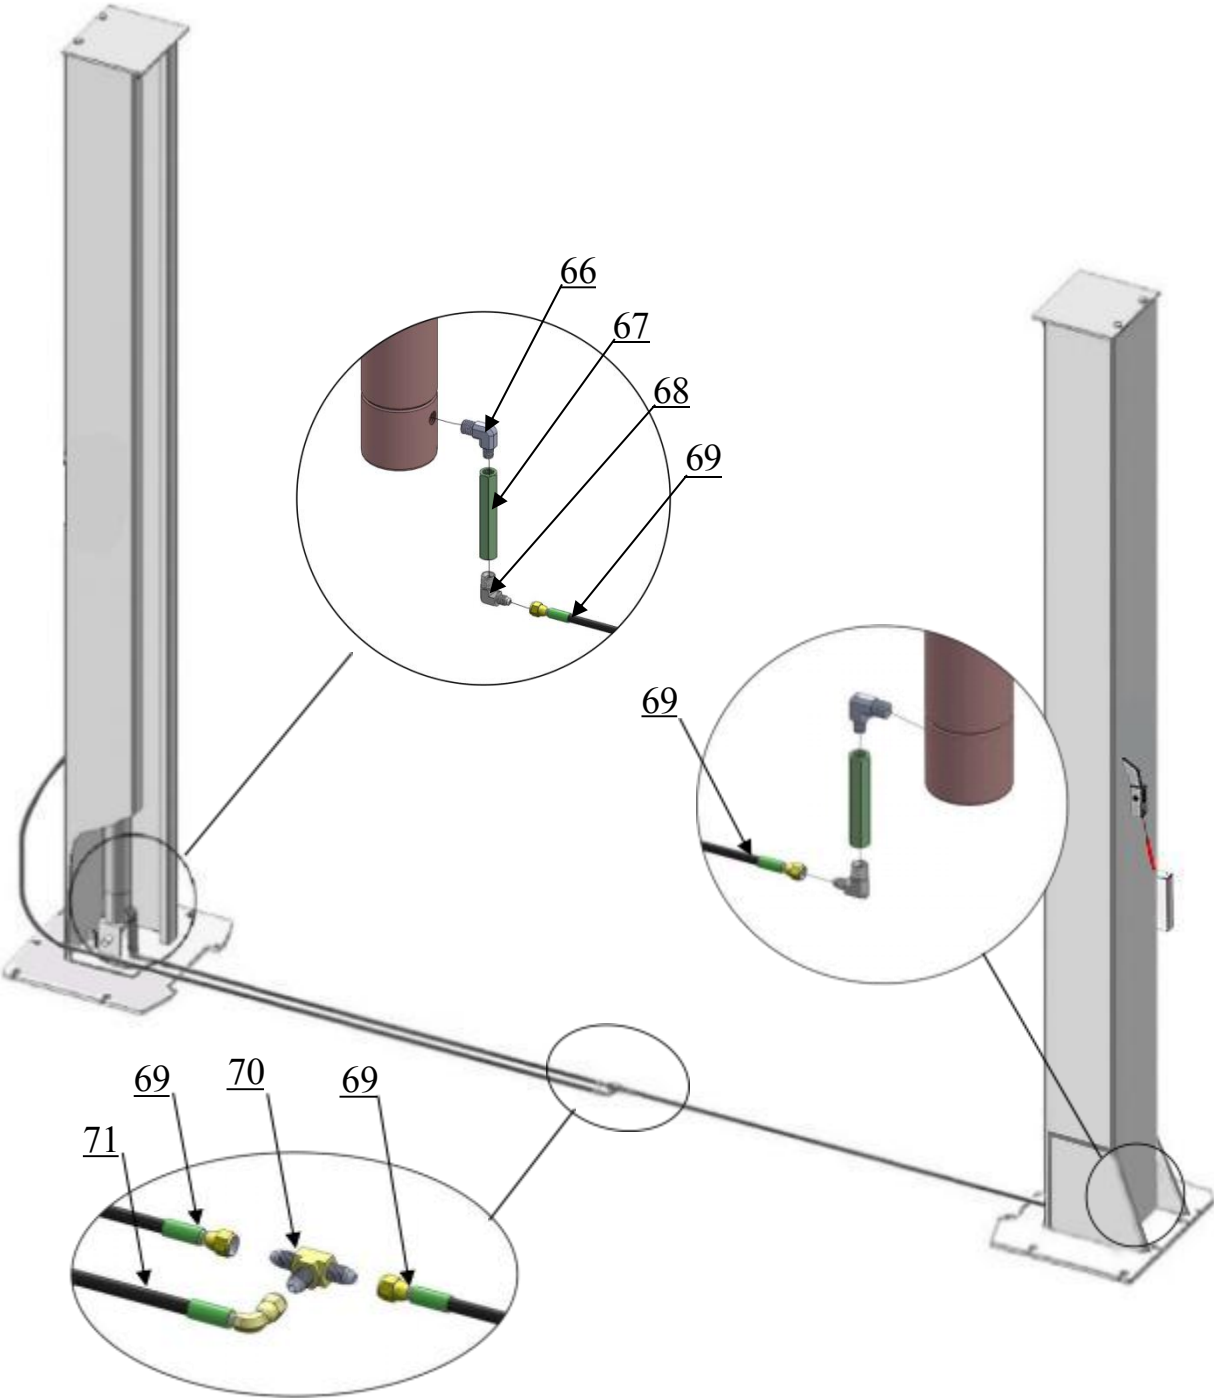

Fig. 21
J. Assembly oil hose assy. (See Fig. 21)